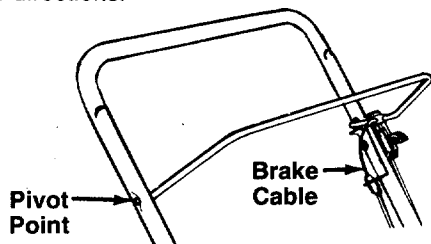

FIGURE 12.
**Blade Control**—Lubricate the pivot points on the blade control handle and the brake cable at least once a season with light oil. See figure 12. The blade control must operate freely in both directions.